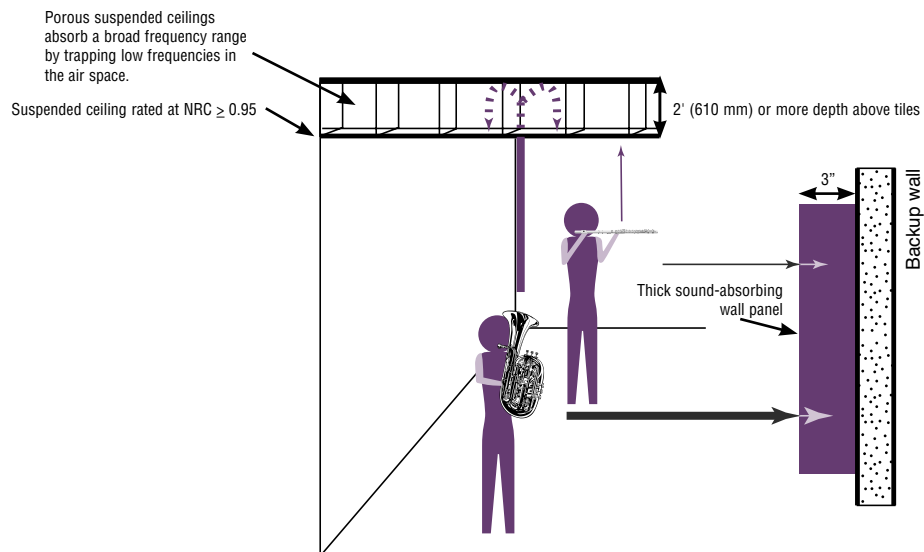

FIGURE 19
- Replace reflective ceiling tiles with 1" (25 mm) thick acoustically absorptive (rated at NRC 0.95 or higher) fiberglass panels (figure 19). Remember the more space above these panels, the better the low frequency absorption.